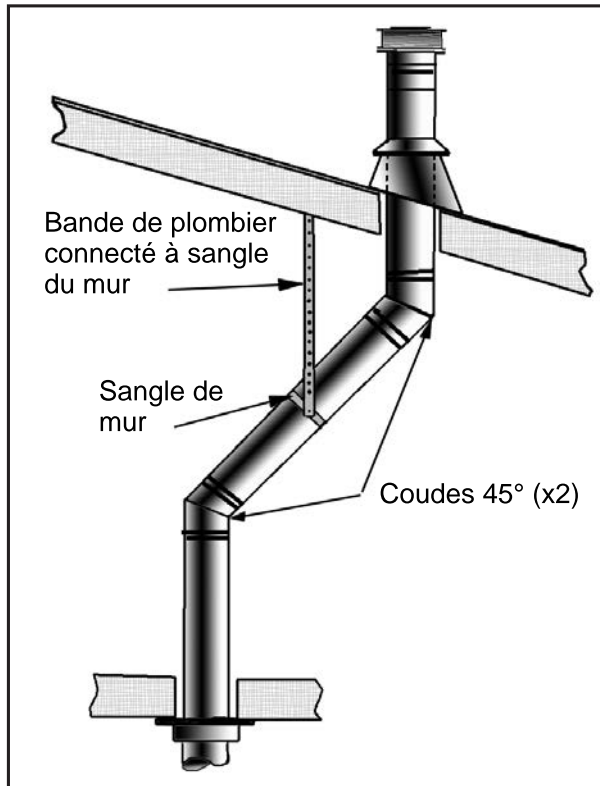
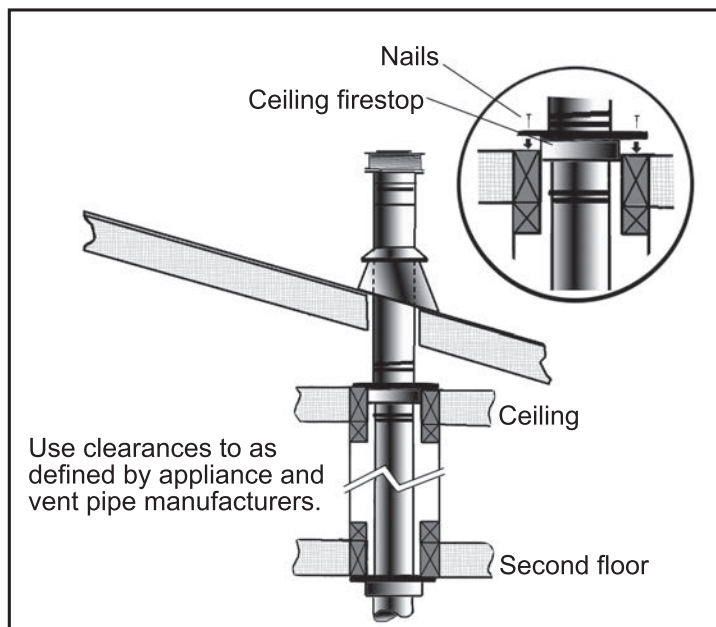

Figure 46: Use of wall straps
Figure 47: Multi-story vent pipe installation
- (1) If an offset is necessary in the attic to avoid obstructions, it is important to support the vent pipe every 3 feet (914 mm), to avoid excessive stress on the elbows, and possible separation. Wall straps are available for this purpose (see Figure 46).
- (2) When ever possible, use 45° degree elbows instead of 90° degree elbows. The 45° degree elbow offers less restriction to the flow of flue gases and intake air.
- (3) For multi story installations; a ceiling firestop is required at the second floor, and any subsequent floors (see Figure 47). The opening should be framed to 10" (254 mm) x 10" (254 mm) inside dimensions, in the same manner as shown on page 29.